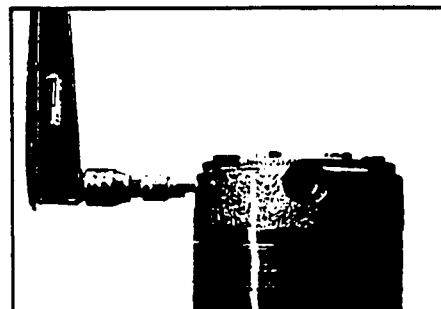

Figure 69
24. Torque the two shuttle valve plug assemblies (21) in end cover assembly to 9-12 ft. lbs. (12-16 N m) if cover is so equipped. SEE FIGURE 69.